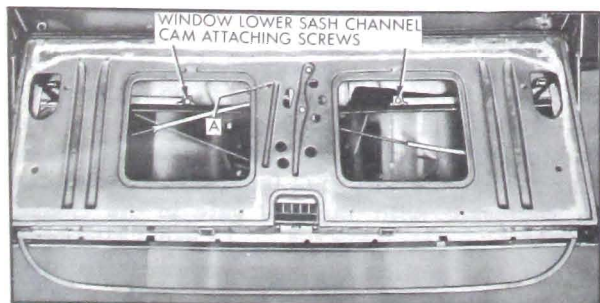

Figure 4-19—Tail Gate Window Removal
2. Detach tail gate inner panel water deflector sufficiently to gain access to window lower sash channel cam attaching bolts (Fig. 4-19). Remove tail gate inner panel access hole cover.
3. Carefully operate window upward until the window lower sash right and left cam attaching bolts are accessible through access holes, as shown in Figure 4-19.
4. Remove window lower sash channel right and left cam attaching bolts (Figure 4-19), disengage cams from window lower sash channel; then, carefully pull window assembly out of tail gate.
remote control locking lever through access hole at location "A", (Figure 4-19) and at the same time operate the tail gate remote control inside handle.